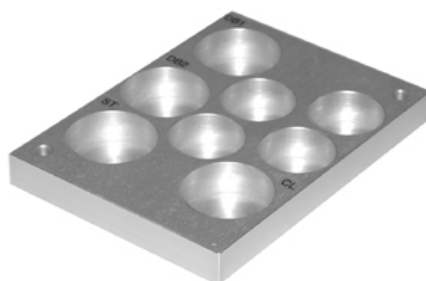

Fig 2 - Universal Common rack
- Universal Common rack ( Fig. 2)